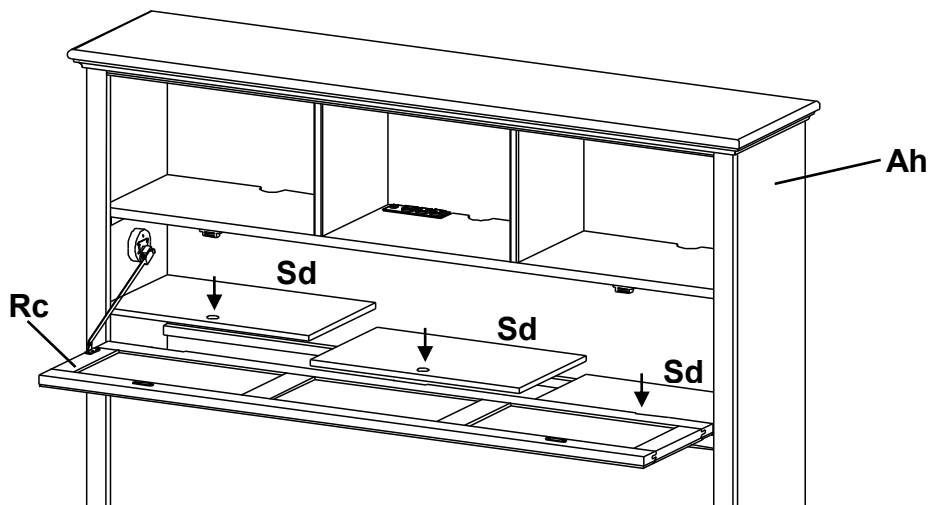

Fig. 15
15. Unwrap the False Bottoms (Sd) and place them on top of the rails in the Headboard Assembly (Ah). Make sure the finger holes face forward as shown in Figure 15. After you have placed your electronics inside the cubbies, use the Wire Clips (ZS) on the underside of the cubbies to secure the wires. Close the door tightly making sure the magnetic catches and plates securely touch.